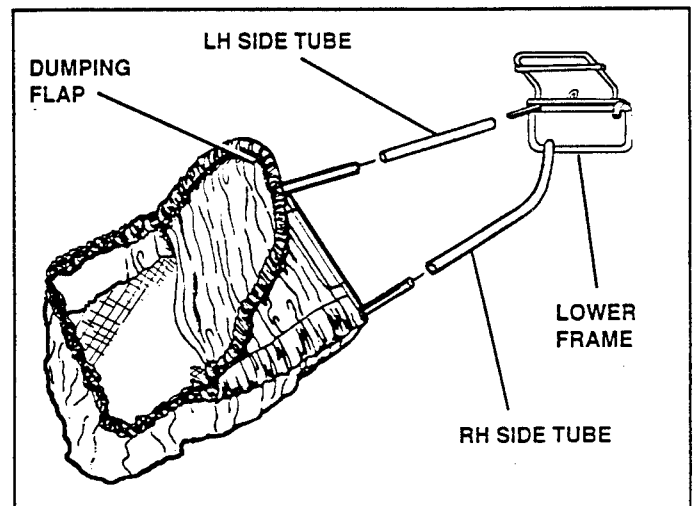

FIG. 3
- Leave ends of upper frame exposed and insert ends inside the bag and back out the lower mouth opening as shown (see Fig. 3).
- Position and assemble side tubes and lower frame to upper frame as shown (see Fig. 3). Be sure side tubes are fully seated onto upper and lower frames.